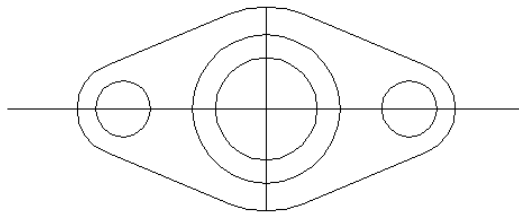

**Figure 10-2:** The completed mounting plate.
9. The command completes the mounting plate. Save your drawing. It should look like Figure 10-2.